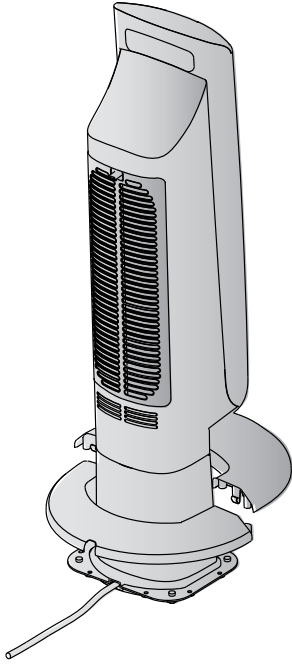

Fig. 2
1. Connect the base of the appliance to the body, inserting the pegs in the seats provided (see Figure 2).